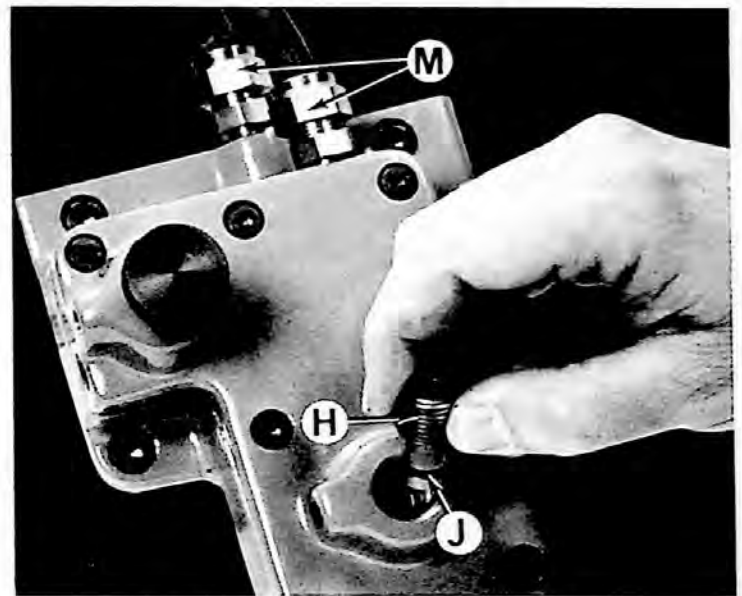

Figure 15 — Slide Travel Adjusting Screw Removal
2. Remove adjusting screw "H", Figure 15, and remove O-ring "J".
1. Replace O-ring "J", Figure 15, and start adjusting screw "H". Connect air pressure at control unit.
2. Set thread depth control dial at 70. Turn adjusting screw "H", Figure 15, slowly to its limit under normal pressure and back off  $\frac{1}{8}$  turn. Relock set screw "G", Figure 13.
1. Disconnect air pressure at control unit. Remove seven screws "K", Figure 13, and remove cover "L". **DO NOT REMOVE HOSE CONNECTORS "M"**, Figure 15, unless absolutely necessary as they are extremely tight to prevent air leakage and removal is most difficult.